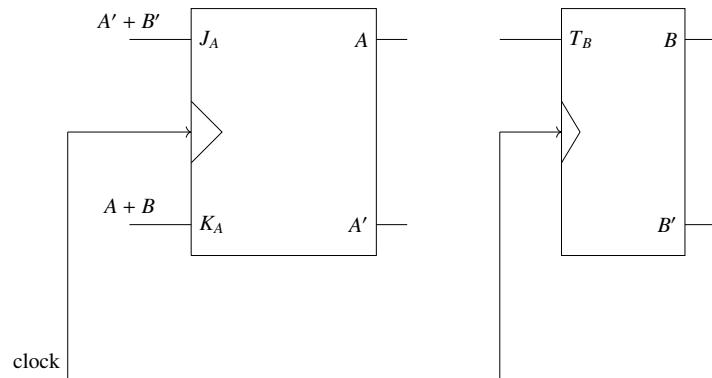

Fig. 5.14
14. Given below in Fig. 5.14 is the diagram of a synchronous sequential circuit with one $J-K$ flip-flop and one T flip-flop with their outputs denoted as A and B respectively, with $J_A = (A' + B')$, $K_A = (A + B)$ and $T_B = A$. Starting from the initial state ($AB = 00$), the sequence of states (AB) visited by the circuit is (GATE IN 2021)